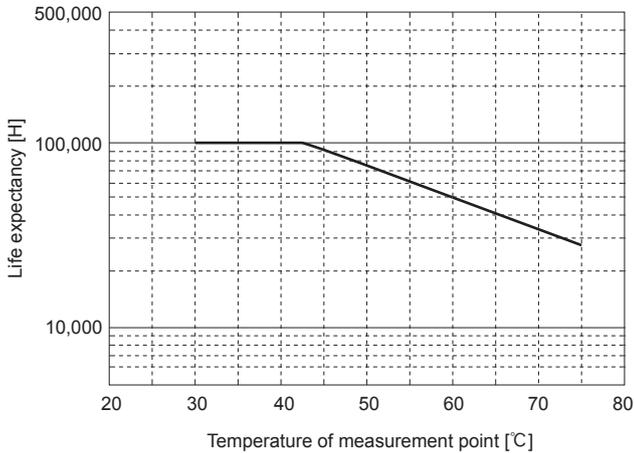

Fig.3.1 Life expectancy of fan
■The life expectancy time (R (t) = 90%) of the built-in fan depends on the operating condition as shown in Fig. 3.1.